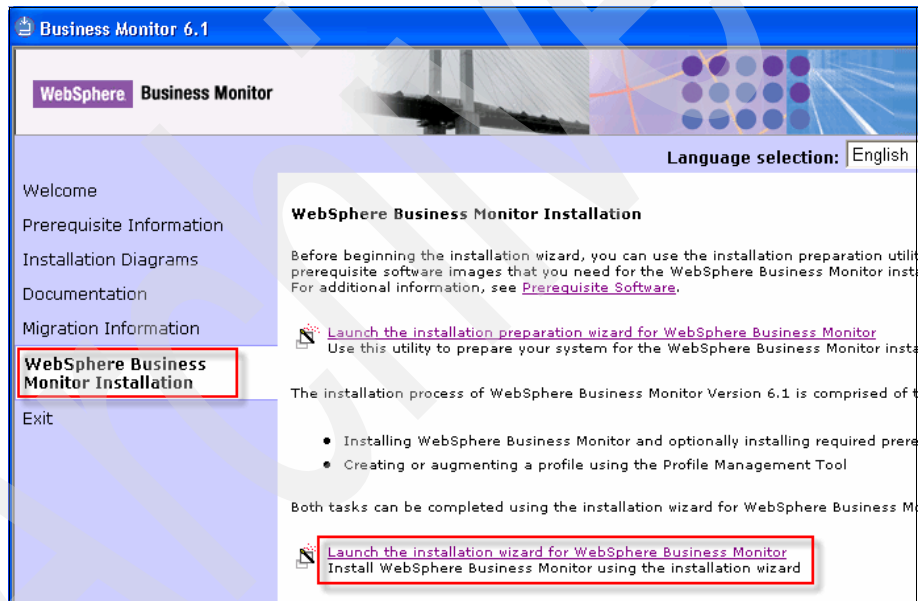

Figure 3-20 WebSphere Business Monitor installation Wizard
2. In the Launchpad (Figure 3-20), click **Launch the installation wizard for WebSphere Business Monitor**.